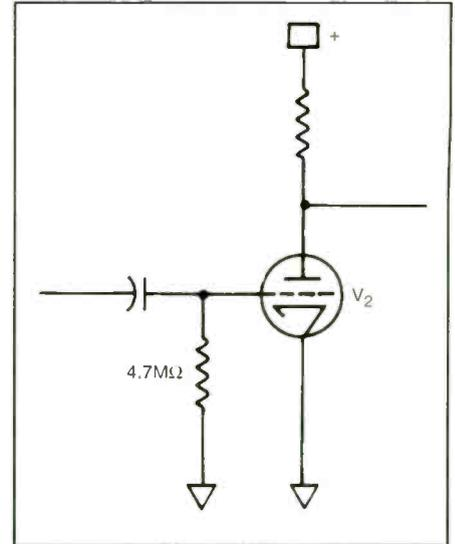

Figure 2.
9. Refer to Figure 2. What type of bias is being used in the circuit for V_2 ?